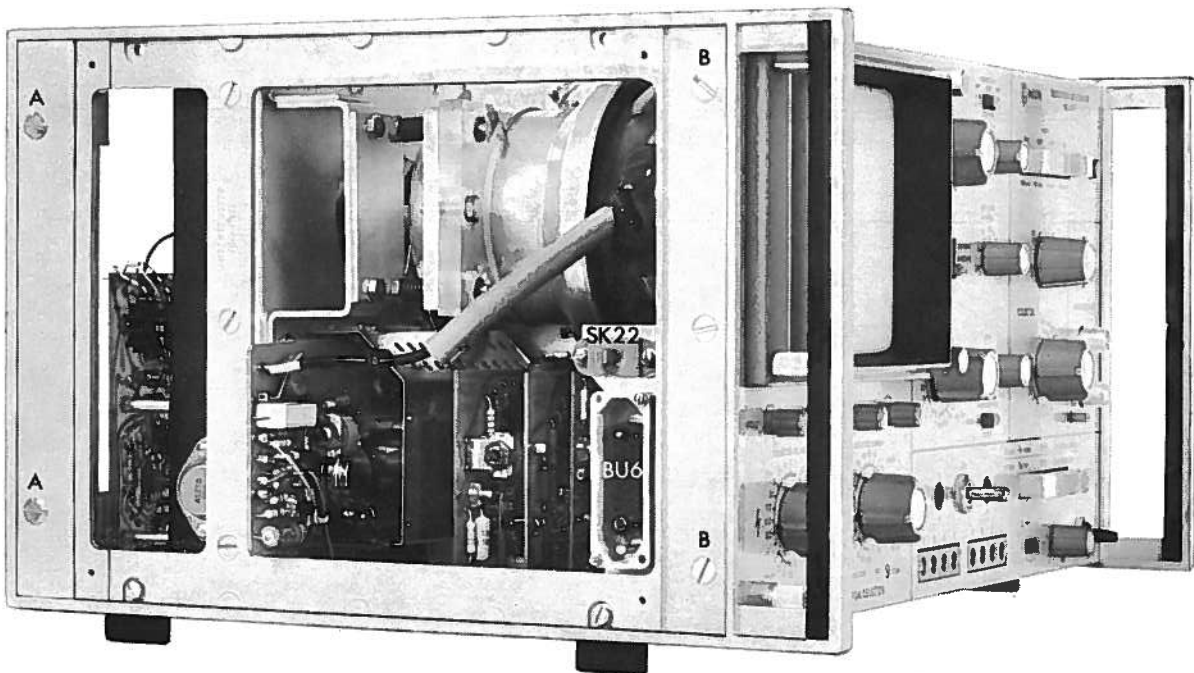

Fig. 5. Making the instrument suitable for a 19" rack
- The cornerpieces have been mounted on each side by means of 2 screws "A" (Fig. 5). Remove these